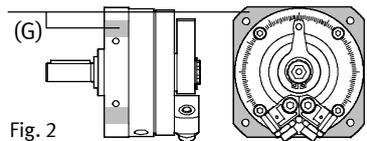

Fig. 2
- Check whether it is necessary to drill additional holes in the fastening flange of the DSM. The grey areas (G) (Fig. 2) show where additional holes can be drilled on the DSM (e.g. to mount centring pins).